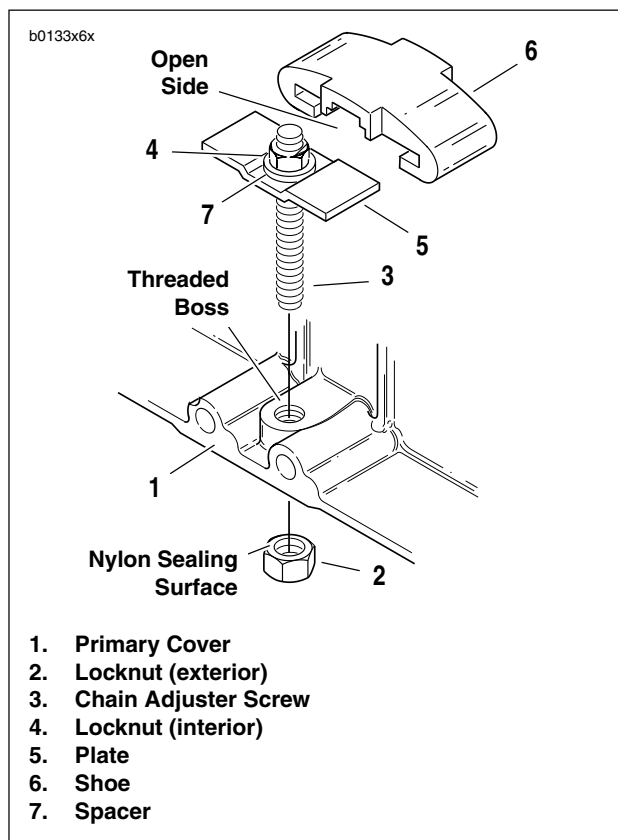

Figure 6-3. Primary Chain Adjuster
1. See Figure 6-3. If shoe (6) is badly worn, replace it or adjust assembly.
2. Install plate (5) over top of chain adjuster screw (3). Place spacer (7) over top of adjuster screw next to plate. Secure plate and spacer to adjuster screw by threading on locknut (4). Tighten locknut to 15-18 ft-lbs (20-24 Nm).
3. Place plate into slots at open end of shoe (6). Slide shoe over plate until locknut at top end of adjuster screw is against closed (blind) side of shoe.
4. Position adjuster inside primary cover (1) with closed side of shoe against cover. Thread adjuster screw into tapped boss at bottom of primary cover. At outside of cover, install locknut (2) onto adjuster screw with nylon sealing surface toward cover. Tighten to 20-25 ft-lbs (27-34 Nm).